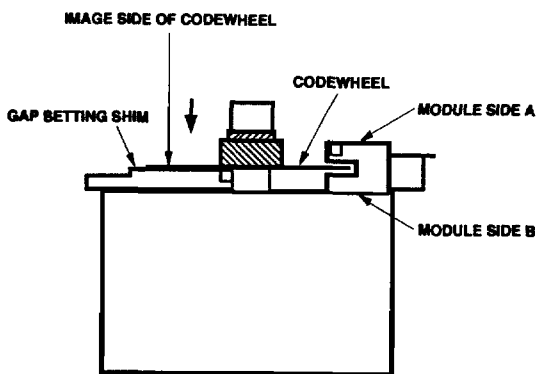

Figure 2. Alignment Tool is Used to Set Height of Codewheel.
- (a) Place the correct gap setting tool (per Ordering Information Table) on motor base, flush up against the motor shaft as shown in Figure 2. The shim has two different size steps. Choose the one that most closely matches the width of the codewheel boss. The